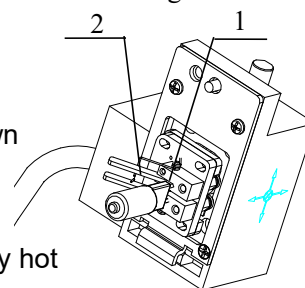

Fig.12
- 3.While pushing down the bulb clamping levers(1 in Fig12) down, hold the halogen bulb with gloves or a piece of gauze, insert the bulb pins into the sections(2 in Fig12) as far as they will go. Then return the lamp clamping lever gently back to the original position to clamp the bulb. (as shown in Figure 12)